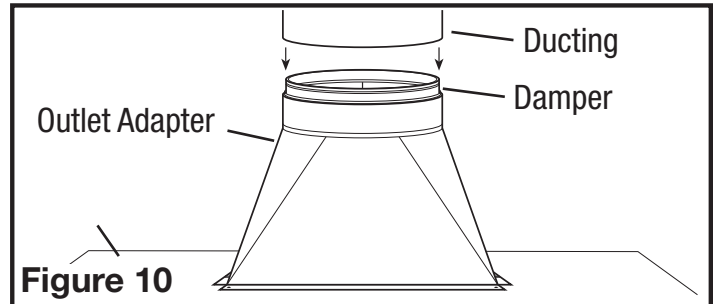

Figure 10
- Connect the ducting to the outlet adapter and damper. Secure in place using tape to seal all joints (Figure 10).